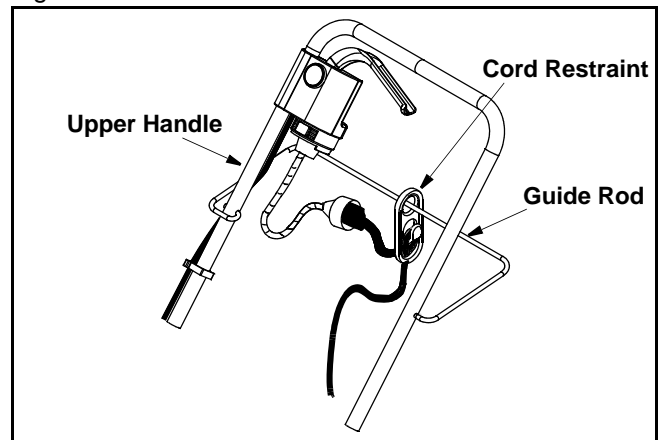

Figure 6
The guide rod and cord restraint need to be installed on the upper handle of the lawn mower. To install, see Figure 6 and continue:
- Slide the cord restraint onto the guide rod through the round hole as shown in Figure 6.
- With the left part of the guide rod inserted in the upper handle, bring the other end of the guide rod around the outside of the upper handle on the right side, and insert the end into the hole on the inner portion of the upper handle. Refer to Figure 6 for proper mounting position.